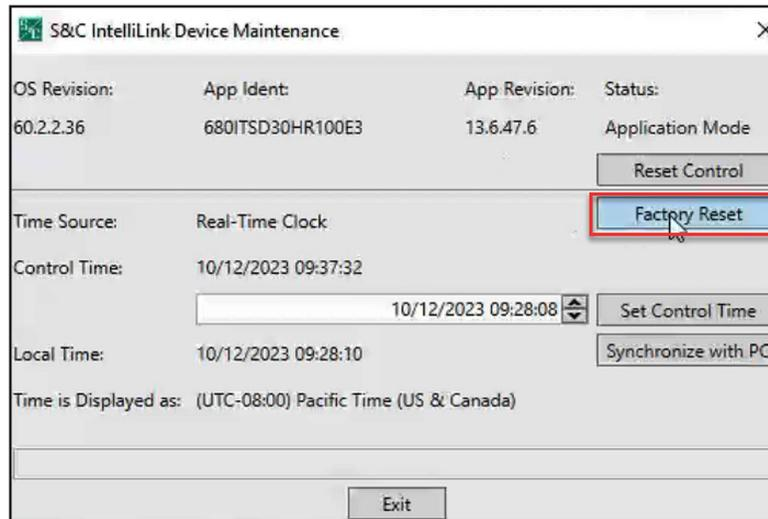

Figure 64. The Factory Reset button.
STEP 3. When the Device Maintenance dialog box opens, click on the **Factory Reset** button to launch the **Factory Reset** procedure. See Figure 64.